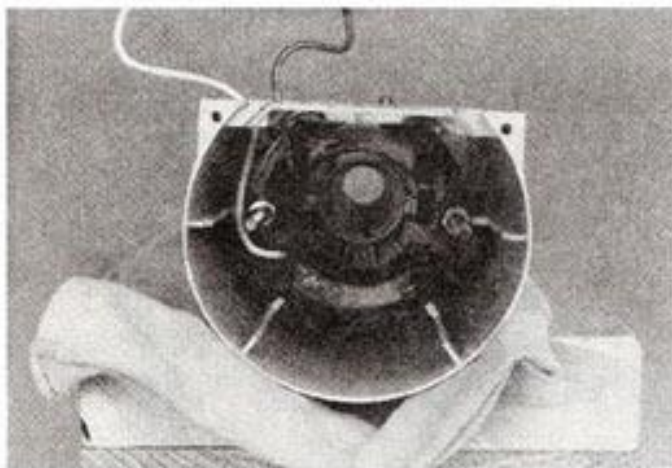

Fig. 38
- E. Push the stator back as far as it will go, then place the #10-24 nuts on each stator screw. Tighten both nuts. Put the two wires from the stator through the slot in the bottom of the gear case and motor housing (Fig. 38). Place the motor stud sleeve over the motor stud and wrap the white wire from stator between the motor stud sleeve and the gear case and motor housing.